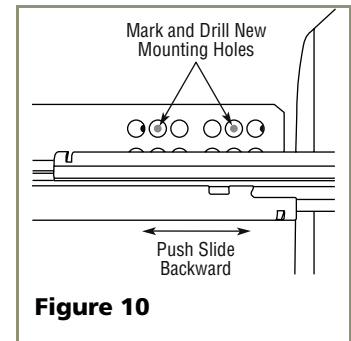

**Figure 9**
3. Retighten the screws. See **Figure 9**.